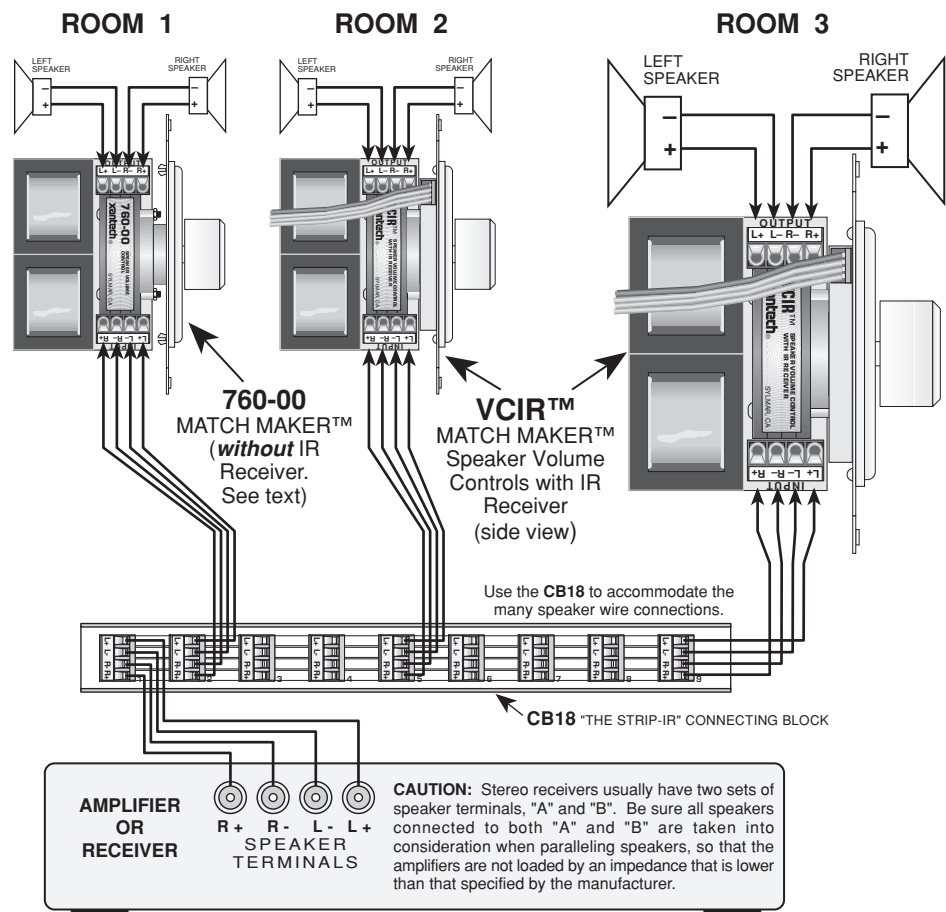

Fig. 5 A Typical 3-Room System
Connect the speaker volume control sections as shown in **Fig. 5.** Four-conductor speaker wire (two wires for each channel) is connected from each of the VCIR's to the power amplifier (home run from each room). Also, each channel (left and right) requires a pair of wires from the VCIR-CFL to the speakers. The plug-in connectors and the printed circuit board of the VCIR-CFL are marked with the terminal identifications.
**CAUTION:** Be sure the amplifier or receiver speaker terminals are connected to the INPUT terminals on the VCIR-CFL and the speakers are connected to the OUTPUT terminals on the VCIR-CFL as shown in Fig. 5!
**NOTE:** Since the VCIR-CFL and the 760-00 volume control sections are identical, you can intermix them in the same system as shown in **Fig. 5.** Simply use the 760-00's in rooms where you do not need IR control.